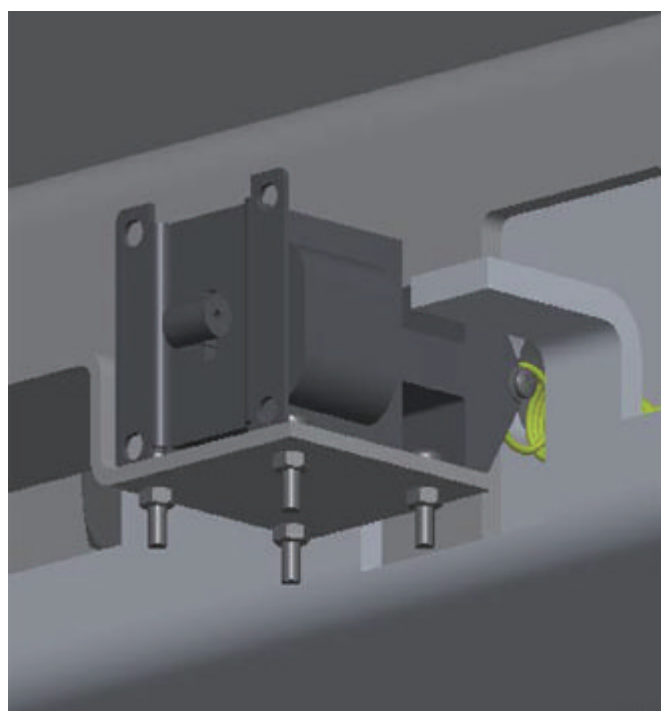

Fig. 2
B.)Keep turning the key switch, control system will automatically release locks through solenoid, Fig. 2., and platform will come down